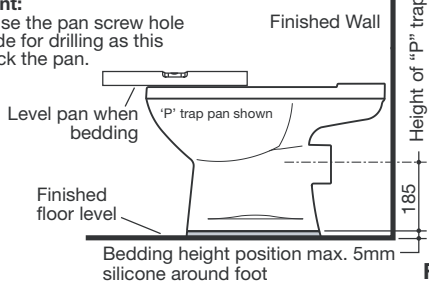

Fig. 4
Important: Use only Caroma performance approved offset pan connector. Code No: 687270. The 40mm optional off set connector is available to help achieve the set out of 140mm on existing installations, where the soil pipe is between 100mm min. and 180mm max. set out ranges specified for connector, as detailed in **Fig 4. (sold separately).**
- 1- Position pan onto pan connector and locate the cistern onto the pan, checking that the cistern aligns with the finished wall. Adjust pan position if necessary and mark location of pan fixing holes on the floor. Remove the cistern and pan, as detailed in **Fig. 4**.